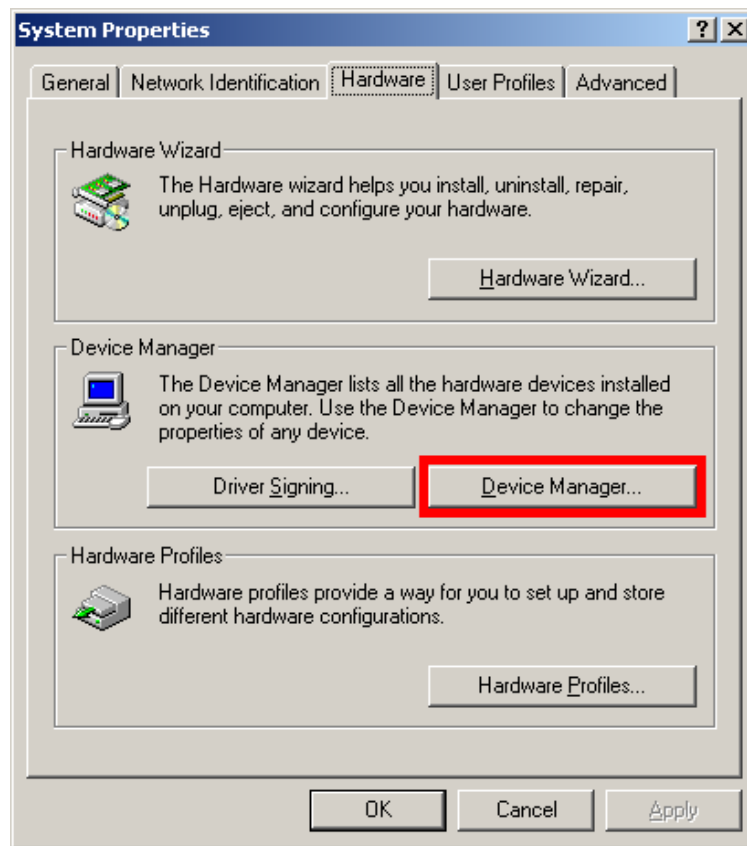

Figure 7-18: Device Manager Tab
Step 3: Double-click the **Device Manager** tab (Figure 7-18).